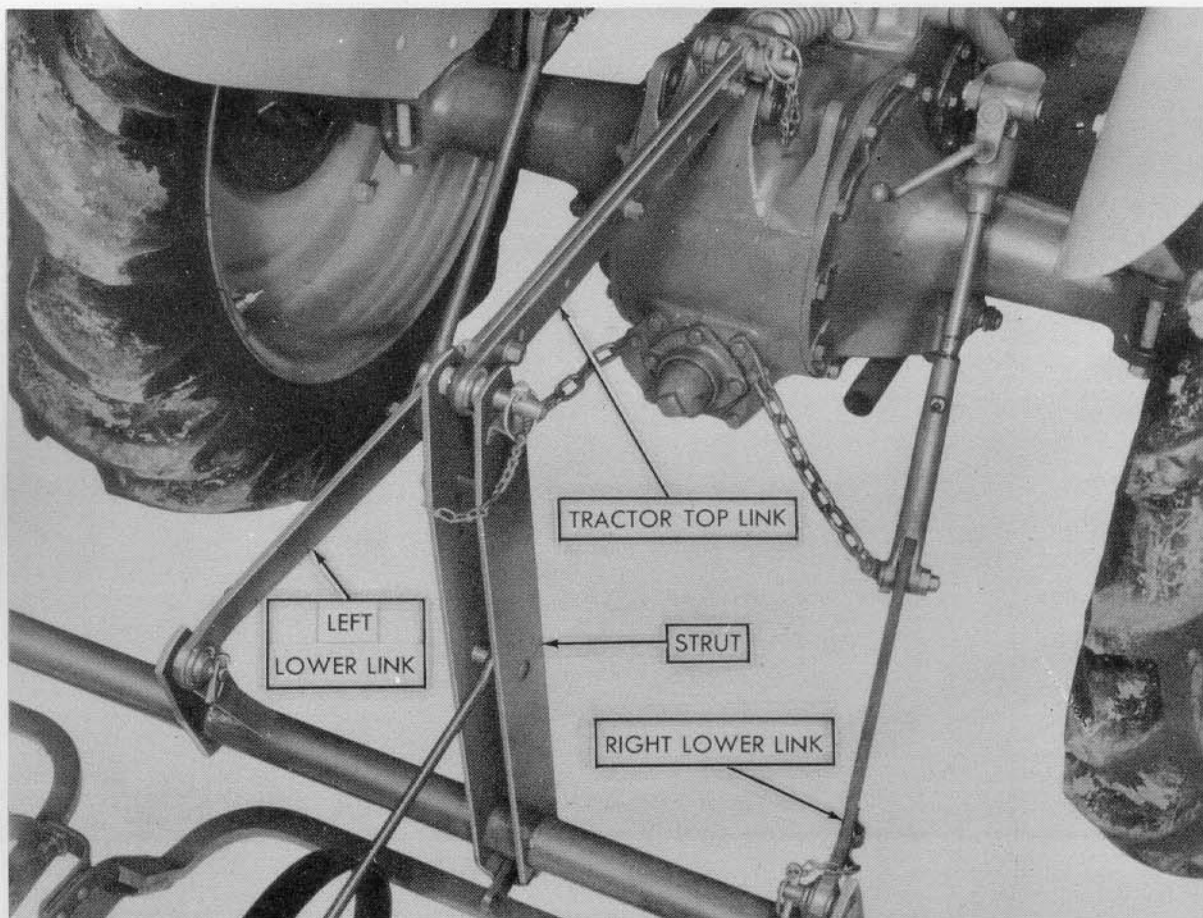

Figure 10
2. Attach left lower link and secure with linch pin. See Figure 10.